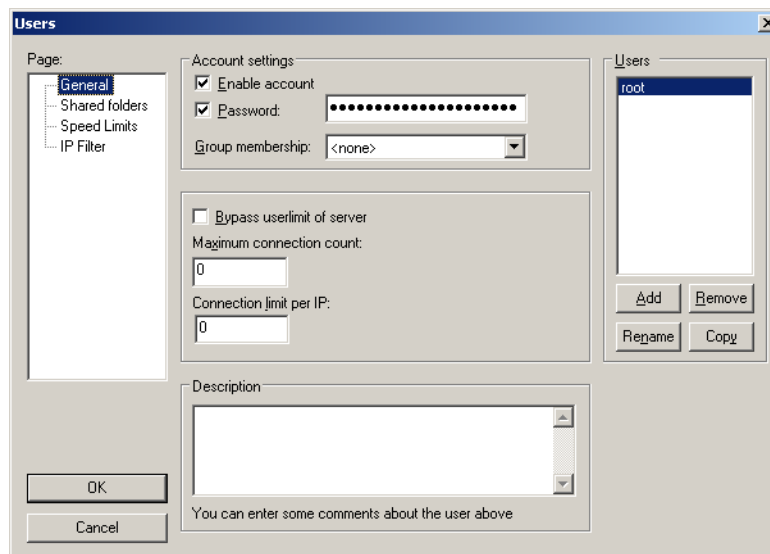

Figure 3-11: User Edit Dialog
- Highlight the user you want to change, root in Figure 3-11, and click the rename button. Type the new name in the edit box and click OK. Delete all of the dots in the password box and type a new password. Click OK.